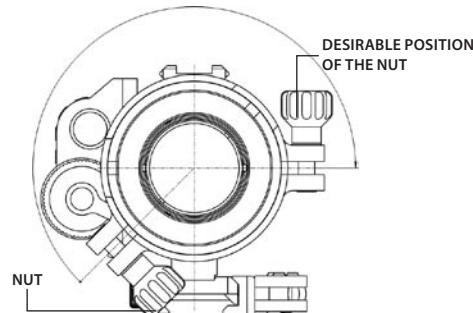

FIGURE 3-9. ESTIMATION OF THE SMS TURNING ANGLE
1. Decide on a desirable position for the nut and estimate the angle through which the SMS should be turned CW (see Figure 3-9).